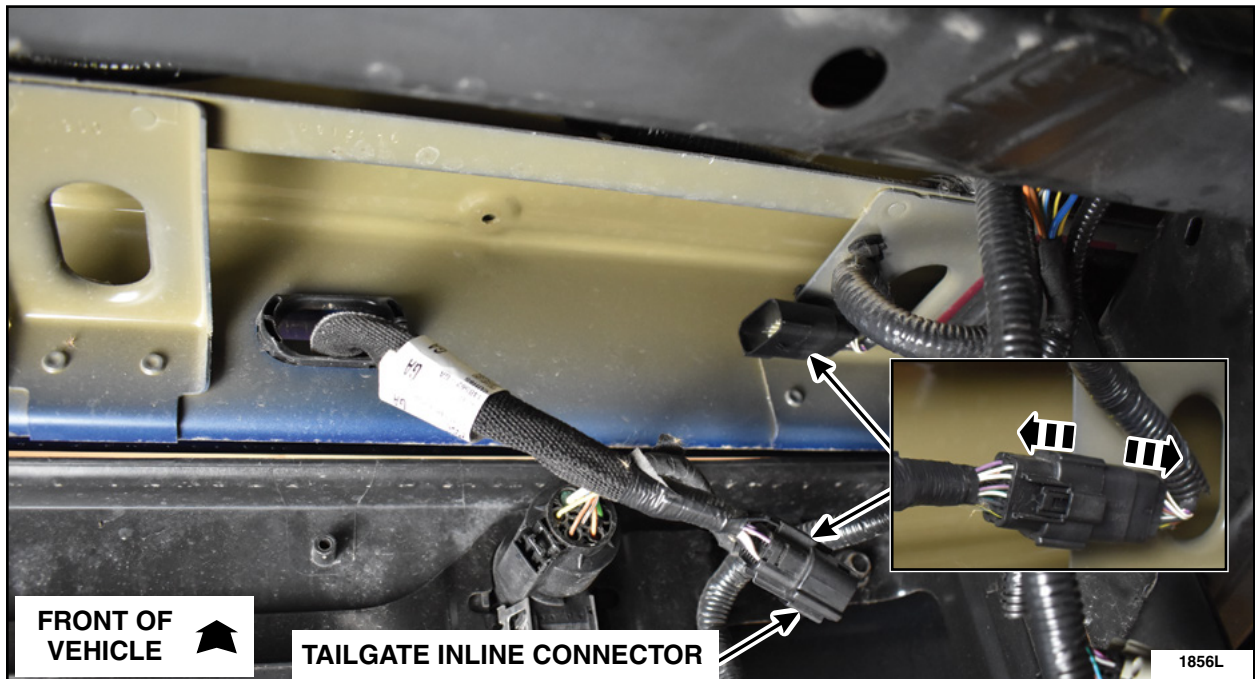

FIGURE 14
17. Disconnect the tailgate inline connector (12 pin or 16 pin). See Figure 14.